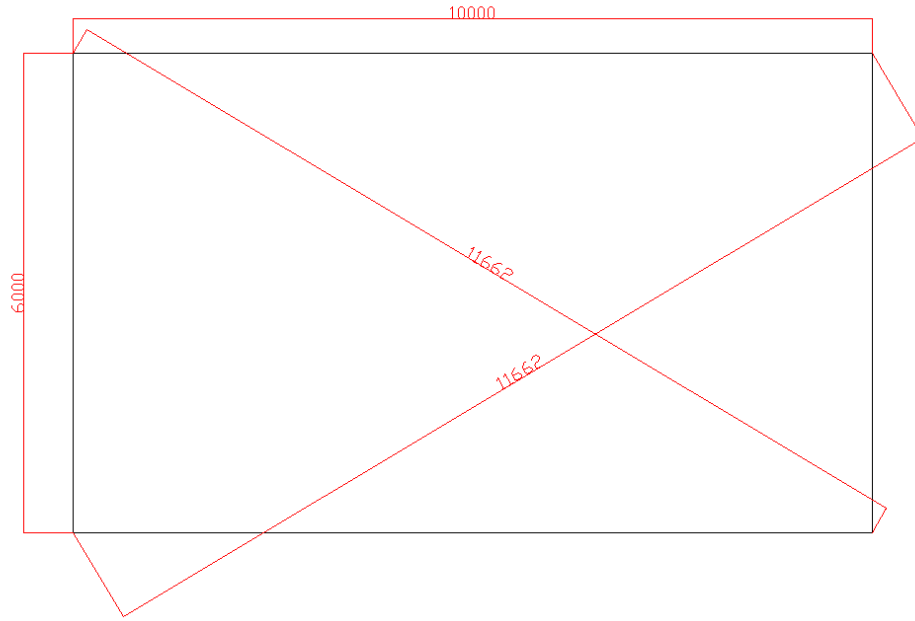

Figure 1
- All lines should be drawn from the center of each hole to the center of the next. Ensure the diagonal measurements are equal, as shown in Figures 1 and 2.